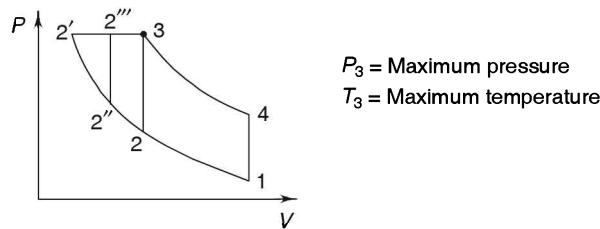

FIGURE 6.10 Equal maximum pressure and temperature.
3. Cycles for maximum pressure and temperature are shown in Figure 6.10. Otto cycle is 1–2–3–4, the dual cycle is 2''–2'''–3–4 and the Diesel cycle is 1–2'–3'–4. As per area enclosed in the cycles, we can say $\eta_{\text{Diesel}} > \eta_{\text{Dual}} > \eta_{\text{Otto}}$.